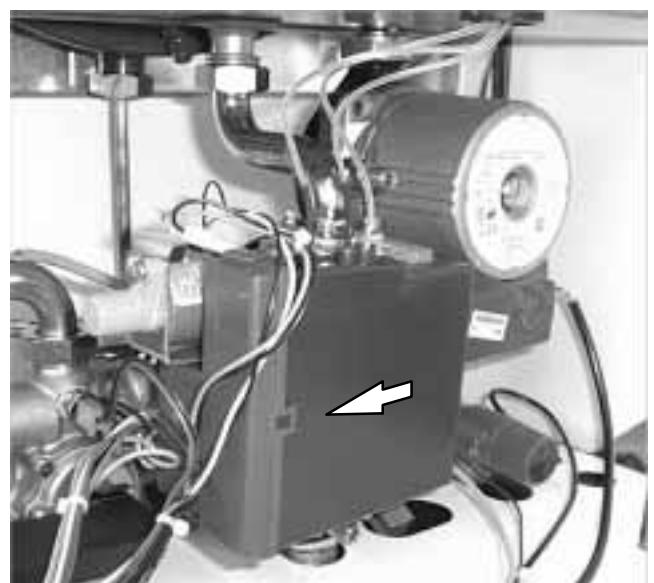

fig. 50
- 4 remove the ignition device by moving it from towards left (fig. 50);